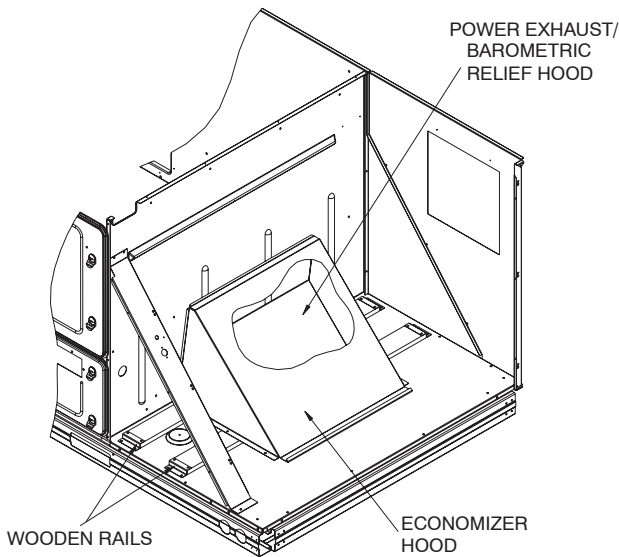

Fig. 18 - Economizer and Barometric Relief/Power Exhaust Hoods Shipping Positions
1. Economizer and barometric relief hoods are stored in the condenser section under the slanted coil for shipping. (See Fig. 18.) Barometric relief/power exhaust hood is shipped inside of economizer hood. Remove screws that secure the wooden rails of the hood assemblies to the unit. Save the screws. Slide complete assembly from condenser section.